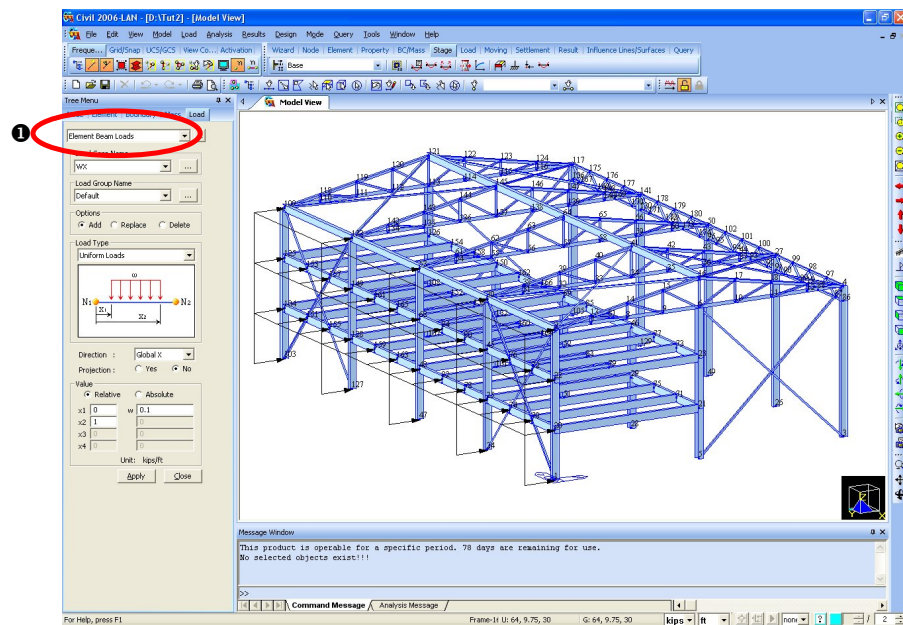

Figure 2.21 Data Entry for X-Direction Wind Load
5. Select “**Element Beam Loads**” in the functions selection field (Fig.2.21–①).